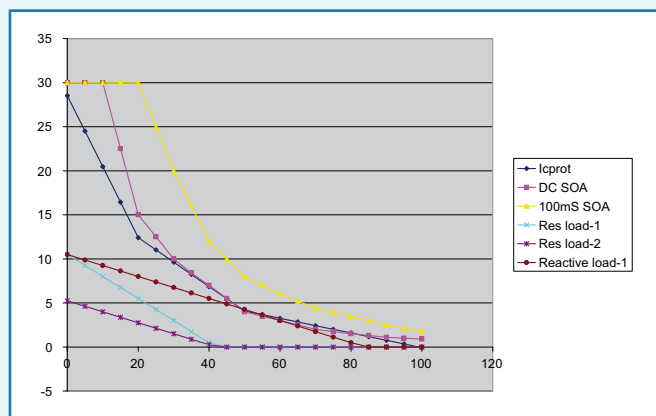

Figure 1. SOA, load lines and protection locus. See text for explanations.
The second main part of the protection system is to guard the output devices against excessive low impedance loads and short-circuits. Michael Kiwanuka has written a very informative article on Safe Operation Protection in audio power amplifiers [1]. My own protection circuit is different, but was inspired by Mike's design and has many things in common with it. **Figure 2** shows the circuit. The circuit receives two types of information from the power amp: the I_c in the output devices through V_{protP} and V_{protN} (via connector J7 in **Figure 1**): this actually is the voltage across the emitter resistors. Secondly, through the components connected to the supply and V_{out} a voltage is developed that represents V_{ce} of the output devices. (There is a separate part to this article that explains the circuit in detail and how
Figure 1 shows the various curves that we need to develop the SOA protection for two pairs of output devices. I_c (A) is on the vertical scale, V_{ce} (V) is on the horizontal scale. When V_{ce} is zero, it means that V_{out} is equal to V_{supply} . In practice, there will always be a few volts V_{ce} remaining at maximum output, but we will disregard that for the moment. The cyan curve shows the safe combinations of DC I_c and V_{ce} for two parallel STD03 Sanken Darlington devices used in this amplifier. The yellow curve shows this for loads lasting no longer than 100 ms. That means that combinations of I_c and V_{ce} that fall below and to the left of the curve, are safe, but as soon as the curve is crossed, the protection system should activate. Since music is impulsive and not DC, one could argue that protection for the yellow curve would be sufficient, but if we use the cyan curve we have an additional safety factor and we also are protected against DC shorts.
Figure 1 also shows some load lines, which are combinations of I_c and V_{ce} required to drive a (resistive) load, assuming ± 40 V supplies. The lower one, in pink, is an 8 Ω load, the light blue one is 4 Ω . For example, in the 4 Ω case, we see that when $V_{ce} = 0$, the output voltage is the supply voltage (40 V in this case) and thus I_{out} in 4 Ω is 10 A. The brown curve is also for 4 Ω load, but now with a maximum reactive component of 90° phase shift. This is a particularly mean load. At $V_{ce} = 40$ V we are exactly between the supplies (assuming a ± 40 V supply) with $V_{out} = 0$. With $V_{ce} = 60$ V, V_{out} is actually -20 V negative but I_c is still positive (about 3 A). That means that the upper
So, we can put in a simple current limiter that follows, say, the 4 Ω complex load line. But then we cannot use the large safe area, especially at low V_{ce} and I_c between 10 A and 30 A, which may come handy with speaker loads that have low impedance dips. It is clear from Figure 1 that a simple current limiter is not enough. What we want is to 'model' the cyan DC curve in our circuit. This can be done with some non-linear circuit elements, and my target SOA protection curve is shown in dark blue. It has three inflexion points at $V_{ce} = 20$ V and $V_{ce} = 50$ V.